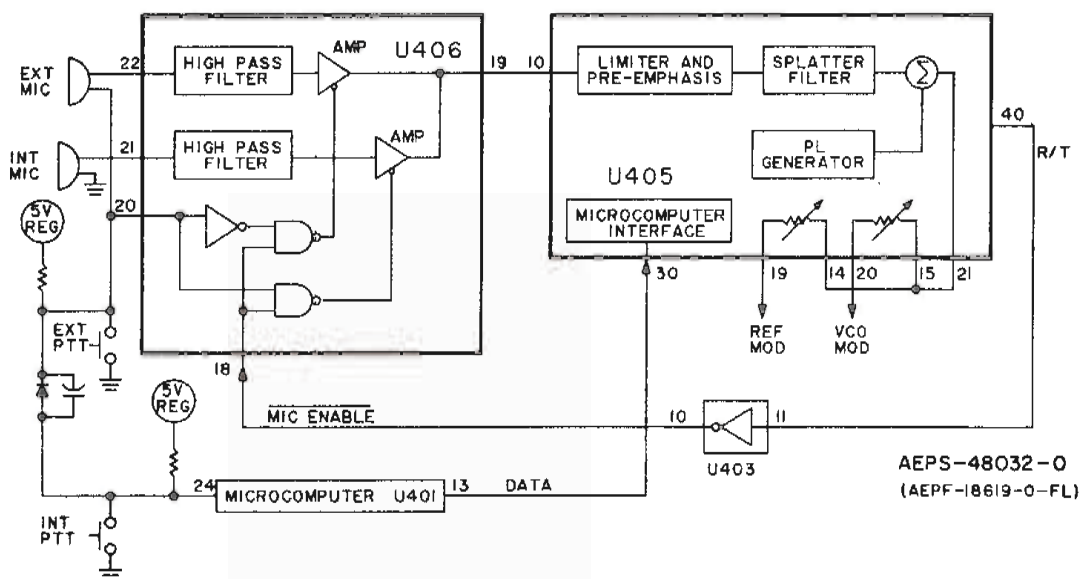

Figure 9. Transmitter Audio Circuitry
i. Transmitter Audio Circuitry (See Figure 9)